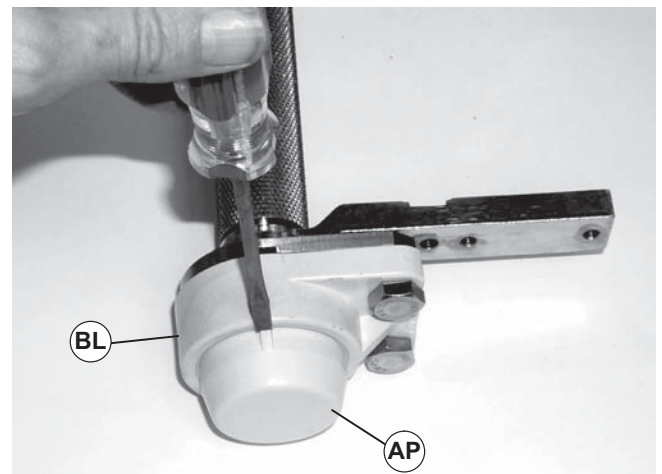

Figure 36
5. On closed end of drive spindle assembly (Figure 36, item BL), use a screwdriver to pry off bearing cover (AP).
7. On closed end of drive spindle assembly (Figure 36, item BL), install bearing cover (AP).